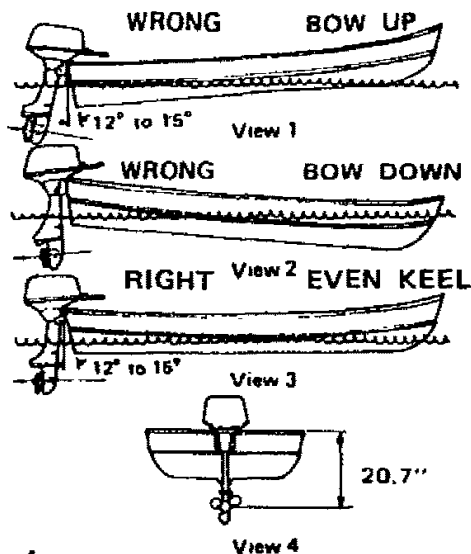

Figure 4
- a. Mount the motor on the center of the boat transom (stern). (See Figure 4).
- b. To obtain the best performance from your outboard, the following boat transom specifications are recommended: (See Figure 4).
If the motor column is tilted too far outward, the boat is likely to porpoise or cavitate at full throttle, which can be dangerous because a cross wind or a wave could suddenly deflect the boat into a dangerous turn. Also, if the motor column is tilted too far inward, the bow of the boat will dig in, which can be dangerous when crossing a wake or in rough water. Do not run motor in the storage position. (See View 1 and 2, Figure 4).